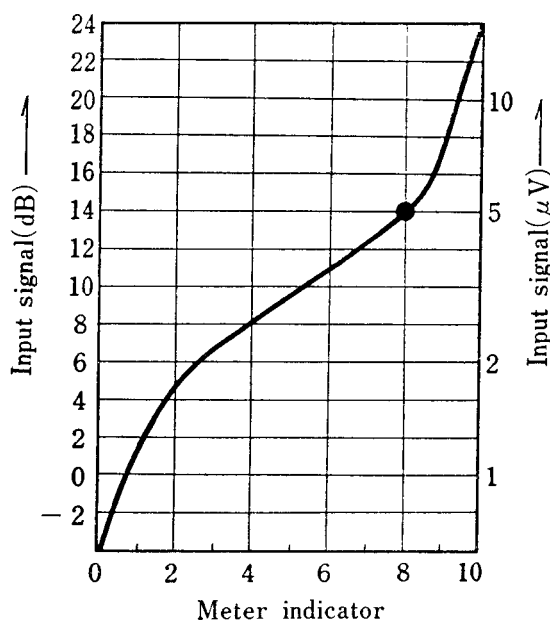

Figure 7-1
Meter ④ indicates the strength of the incoming signal in the receiving process, and the comparative value of transmission power in the transmitting process. During reception of transmitted signal, the magnitude of the incoming signal to swing the pointer 8 graduations is equivalent to about $5\text{ }\mu\text{V}$ (14 dB). The indication of the output of the transmitted signal is arranged in about 8 graduations. See Figure 7-1 for the relationship between the incoming signal in reception and the scale of the meter.